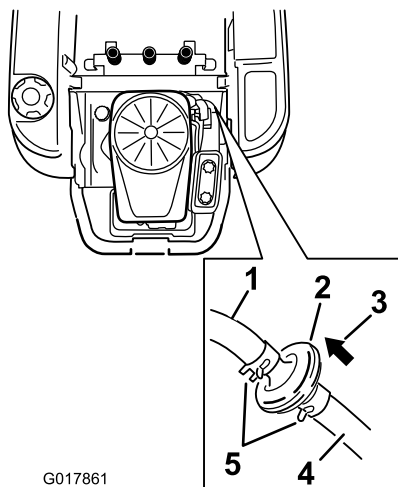

Figure 35
3. Raise the seat and locate the fuel filters (Figure 35).
Note: Move the hose clamps close to the filter (Figure 35) to secure it in place.
4. Squeeze the ends of the hose clamps together and slide them away from the filter (Figure 35).